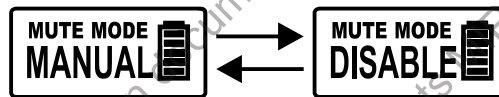

Fig. 23
- (C) MUTE MODE Setting. Fig. 23:
- (1) Select MANUAL or DISABLE:
- (2) MANUAL: Use MUTE button to mute/unmute.
- (3) DISABLE: MUTE button is disabled. Mute setting is canceled.